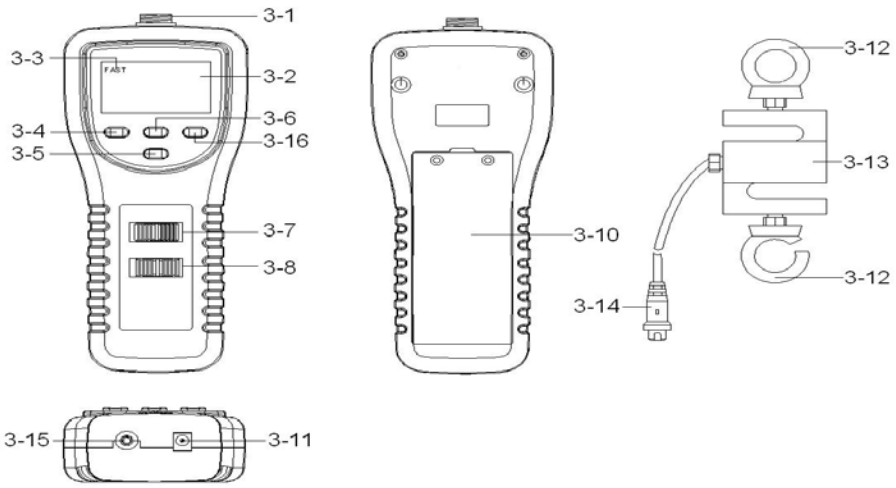

Fig. 1
- 2) When make the measurement, the " Sensor " (3-13, Fig. 1) should be on a line with measuring object.
- 3) Rotate the sensor's body is prohibited. Some certain angles between " Sensor " (3-13, Fig.1) & measuring object are not allowed.
- 1) Connect the " Sensor Plug " (3-14) to the " Sensor socket " (3-1, Fig.1).
Slide the " Power Off/On/Peak Hold Switch " (3-8, Fig. 1) to the " On " position.
- 2) Determine display unit of Kg, LB or Newton by selecting " Kg/LB/Newton Unit Switch " (3-7, Fig. 1).
- 3) Connect " Sensor " (3-13, Fig. 1) with the " Measuring Object " via the " Sensor hook " (3-12, Fig. 1) in straight line.
- 4) " Zero Adjust " by pushing " Zero Button " (3-6, Fig. 1) before every measurement.
** During the measurement, if intend to change the display direction, just push the " Reverse Button " (3-5, Fig. 1) once.*
- * There are two kind sampling time of display, FAST and SLOW. Push the " FAST/SLOW Button " once (3-4, Fig. 1), if the upper left corner of LCD shows " FAST " (Fast Indicator, 3-3, Fig. 1), then the display reading is under the operation of fast sampling time.
- * If the upper left corner of LCD not show the " Fast Indicator " (3-3, Fig. 1), the display reading is under the slow sampling time.
The meter can measure the peak value of force both of tension & compression operation. The operation procedures of Peak Hold Measurement are same as above " 4-2 Normal Measurement " but should slide the " Power Off/On/Peak Hold Switch " (3-8, Fig. 1) to the " PEAK H. " position.
Slide the " Power Off/On/Peak Hold Switch " (3-8, Fig. 1) to the " On " position will cancel the peak hold function.
During the measurement, press and hold (> 2 seconds) the "  Button " (3-16, Fig. 1) until LCD Back Light is ON, then it will be off after a period time.
- 2) Take out the battery cover (3-10, Fig. 1) away from the instrument and remove the batteries.
The instrument features an RS232 output via 3.5 mm Terminal (3-15, Fig. 1).